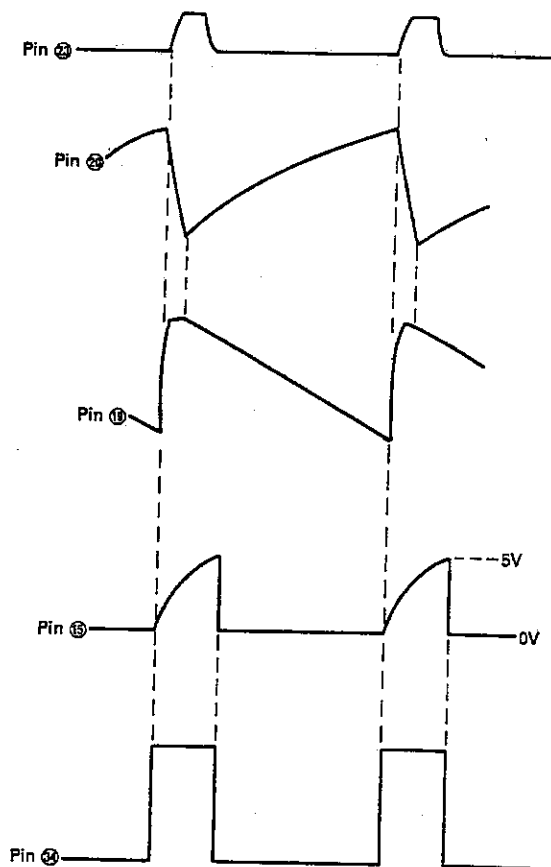

Figure 29-2.
The output available at pin ⑮ is at High level at the time of blanking with the maximum rating of 3mA and 16V. Fig. 29-2 shows the timing relation among the waveforms accompanying the vertical oscillation.